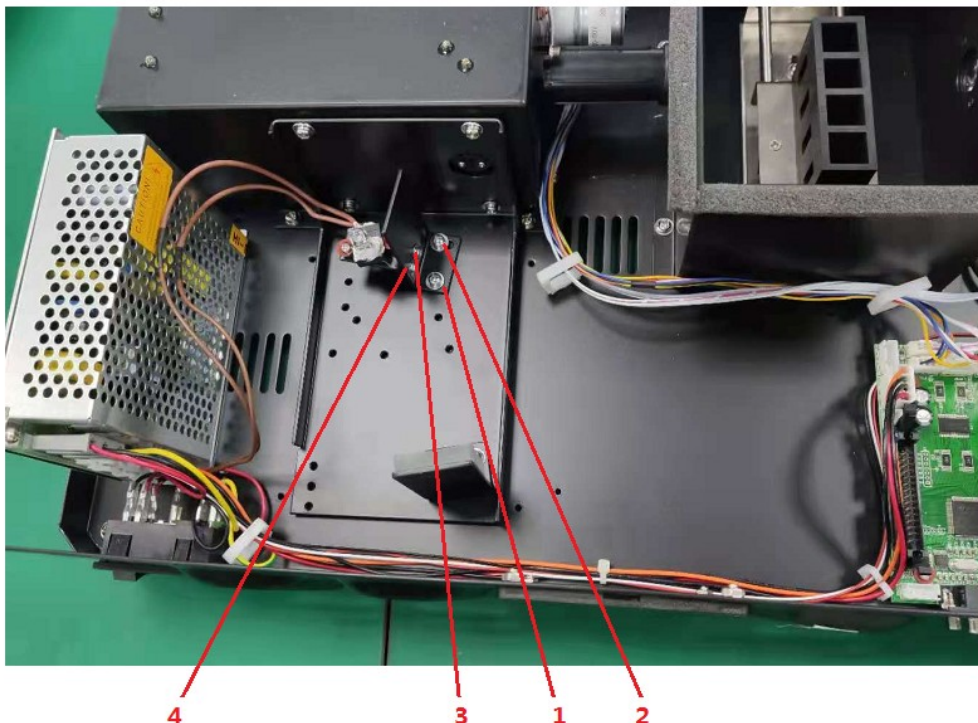

Fig. 4-1
Step 7: Set the wavelength at 500nm, switch on the power, move the lamp up and down and from side to side, until its focus falls exactly on the entrance slit. Observe the reading in T mode without adjusting the key "ZERO". Readjust the lamp to make the reading at its maximum. If it can't focus on the center of the entrance slit, you have to adjust the four screws shown in Fig. 4-1. The screws 3 and 4 are for height adjustment of the light spot while the screws 1 and 2 for the horizontal adjustment.